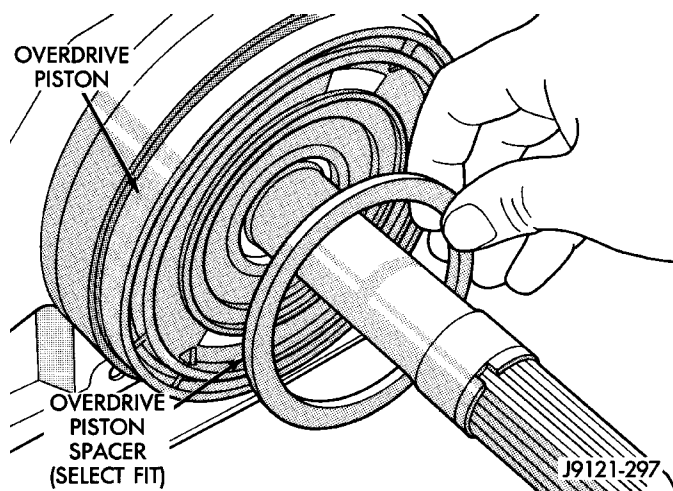

Fig. 187 Overdrive Piston Thrust Plate Removal/Installation
(1) Remove overdrive piston thrust plate (Fig. 187). Retain thrust plate. It is a select fit part and may possibly be reused.